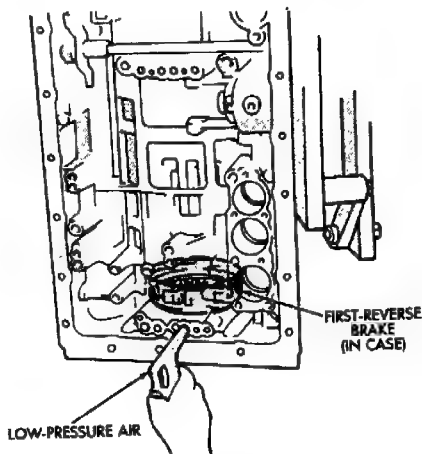

Fig. 3 Checking First-Reverse Brake Piston Operation
- (2) Check first/reverse brake piston operation with compressed air (Fig. 3). Piston should move smoothly and not bind or stick. If piston operation is incorrect, case or piston may require replacement.